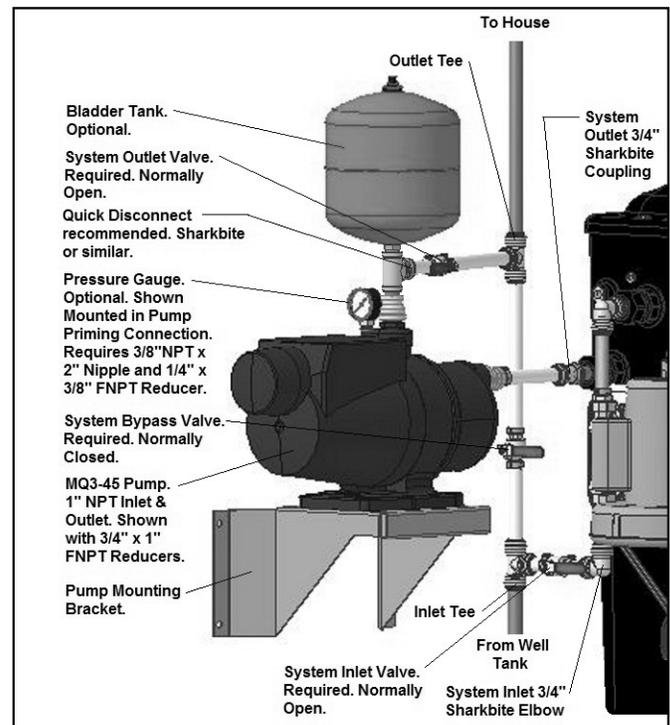

Figure 2
2. Install the Suction Check Valve provided with the Grundfos MQ3 Pump into the pump inlet as shown in the pump installation instructions. This will prevent loss of pump prime and possible interruptions in the water supply to the house. Remove the priming plug from the pump and add the specified volume (See Pump Installation Instructions) of water to the pump. Either re-install the priming plug or install a 3/8" NPT x 2" long pipe nipple and attach a 1/4" NPT Pressure Gauge with 1/4" x 3/8" FNPT Reducer to the pipe nipple (Fig. 2).
5. Install pipe/tube from System inlet (Fig. 2) to the desired location of the supply from the well tank. At the supply end a tee is required to accommodate supply from the well and the system bypass connection. The system inlet is provided with a $\frac{3}{4}$ " Sharkbite Elbow suitable for $\frac{3}{4}$ " Nominal Copper Tube or Pex Tube, insertion length into Sharkbite Fitting is 1". A System Inlet Valve (normally open ball valve) is required between the tee and Sharkbite Elbow.
5. Plumb the water line to the house into the Outlet Tee (Fig. 2, 4 or 5 depending on System and Pump). A flow restrictor or gate valve in the water line to the house is required for balancing the system flow. A Bladder Tank, minimum capacity 5 gallons is required for 433-S50 Systems (20gal. min. for 433-S50X).